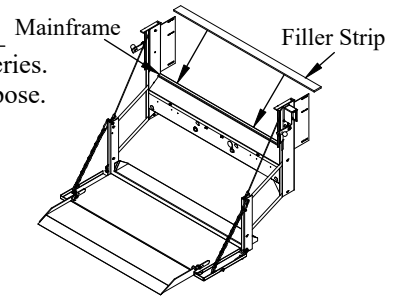

Figure 9: Filler strip location.
- 1. Weld** the filler strip or strips to the top corner of the liftgate mainframe (Figure 9).